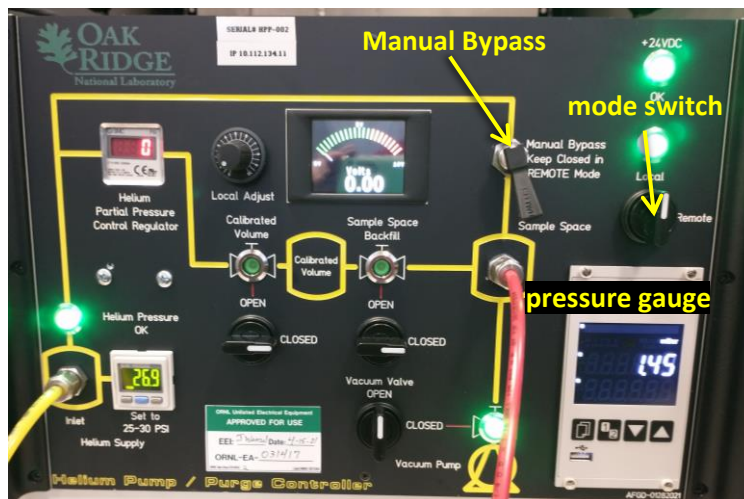

Figure 3. Helium Pump / Purge Controller
- e. On the Helium Pump / Purge Controller (Figure 3), change the mode switch from Remote to Local.